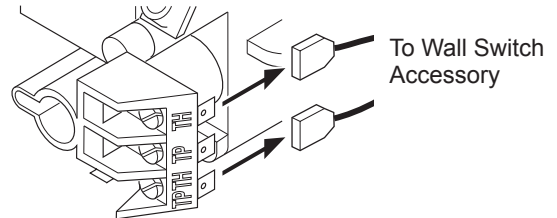

Figure 36 - Connecting Wall Switch to Control Cover
1. Connect one terminal of 25 ft. wire for wall switch to the TPTH terminal on valve. Connect remaining wire terminal to TH terminal on valve. Make sure wire terminals are in positions on unit as pictured in Figure 36. If wires are not connected as shown, switch will not work.